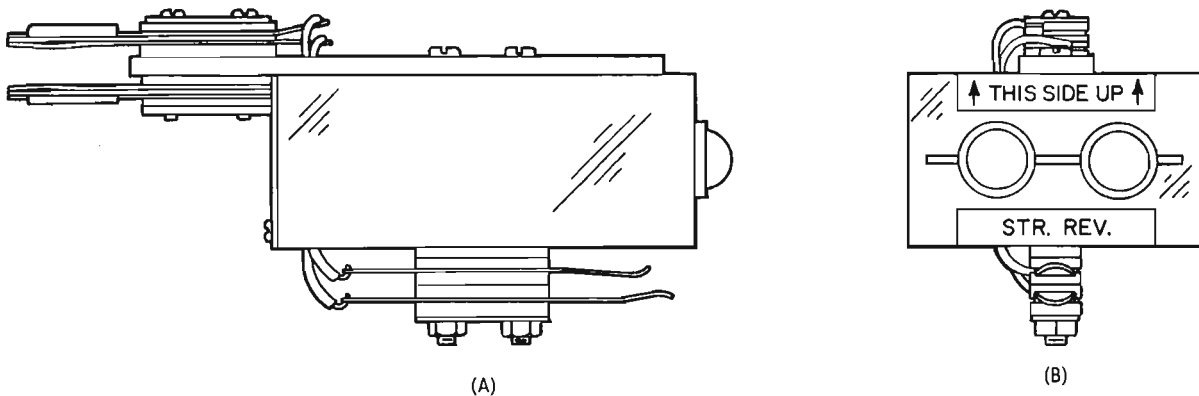
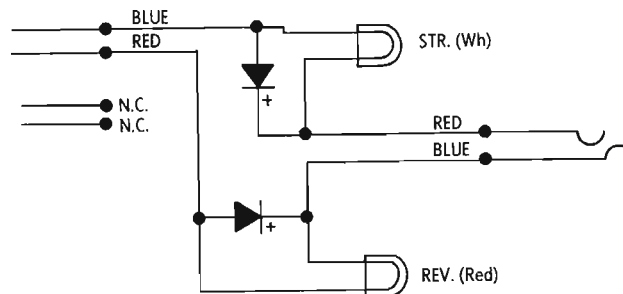

Figure 1. Model CMC 5687 Polarity Tester (a) Side View, (b) Front View
Figure 2. Schematic Diagram of Polarity Tester.
1.01 The CMC 5687 Polarity Tester (Figure 1) is designed for checking polarity on any selector trunk capable of returning battery and ground from the succeeding switch. The schematic diagram is in Figure 2.